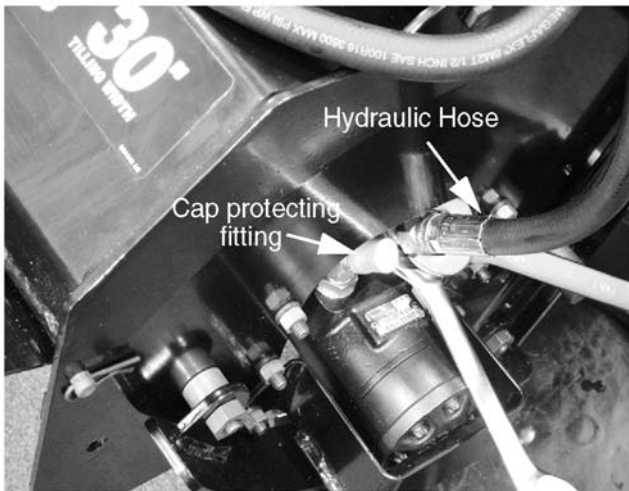

Figure 8-100.
4. Disconnect both hoses from the hydraulic tine motor using a 7/8" wrench and a 11/16" wrench. See Figure 8-100.